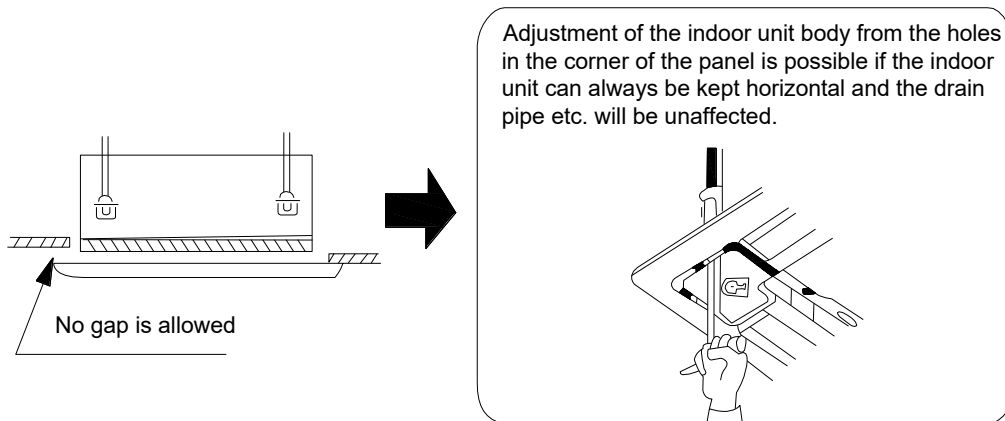

Figure 3-1-47
(8) If gap still exists between ceiling and decoration panel after tightening the screws, readjust the height of the indoor unit (Figure 3-1-47).